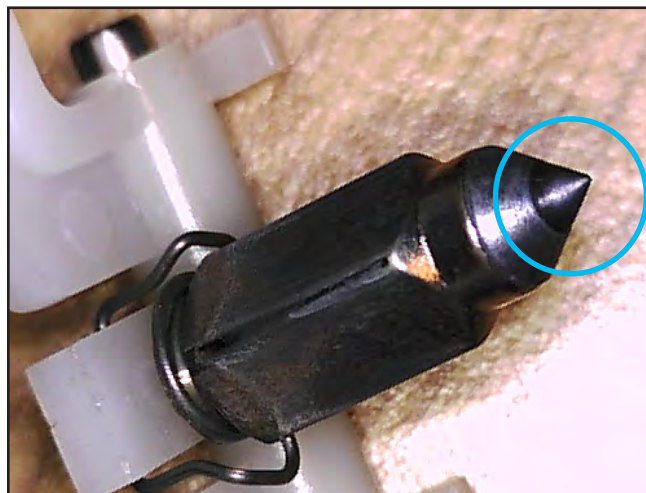

Figure 12
4. Inspect the tip of the needle for damage or ring from debris and seat contact (Figures 12).